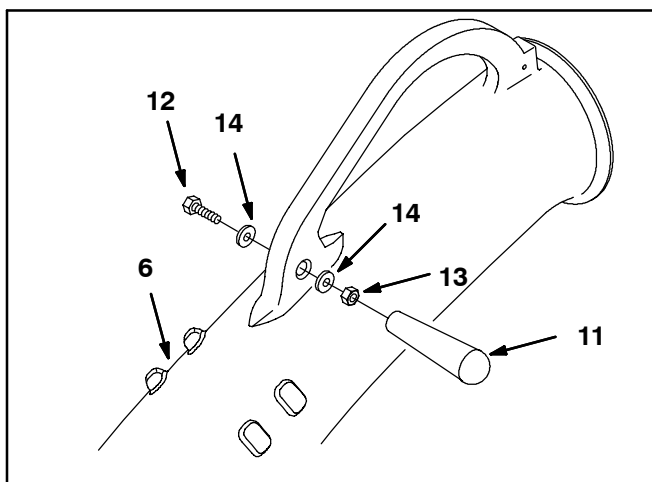

FIG. 3
1. Use a hex screw (12), two washers (14), and a jam nut (13) to install the knob (11) onto the wand tube (6). Hand tighten hardware. Refer to Fig. 3.